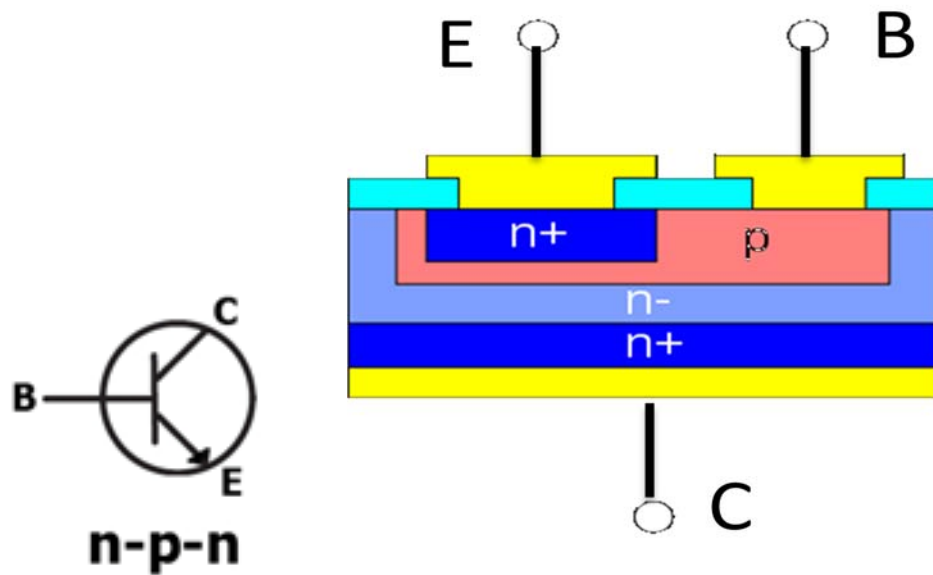

Figure Q5[a]
- Q5. [a] Figure Q5[a] shows the symbol of Bipolar Junction Transistor (BJT) and its actual construction as a device. Describe the processes involved in fabricating this device. Please provide the process flow chart.**